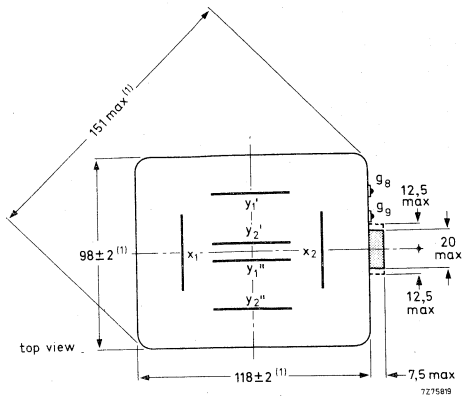

Fig. 3 Top view.
- (1) The bulge at the frit seal may increase the indicated maximum dimensions (Fig. 3) by not more than 3 mm.
- (2) Minimum length of cable: 420 mm.